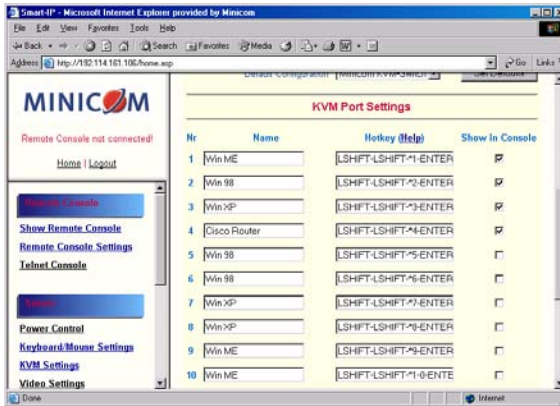

Figure 14 KVM Port Settings
2. Press . The number of rows chosen appears in the KVM Port Settings list. See Figure 14.